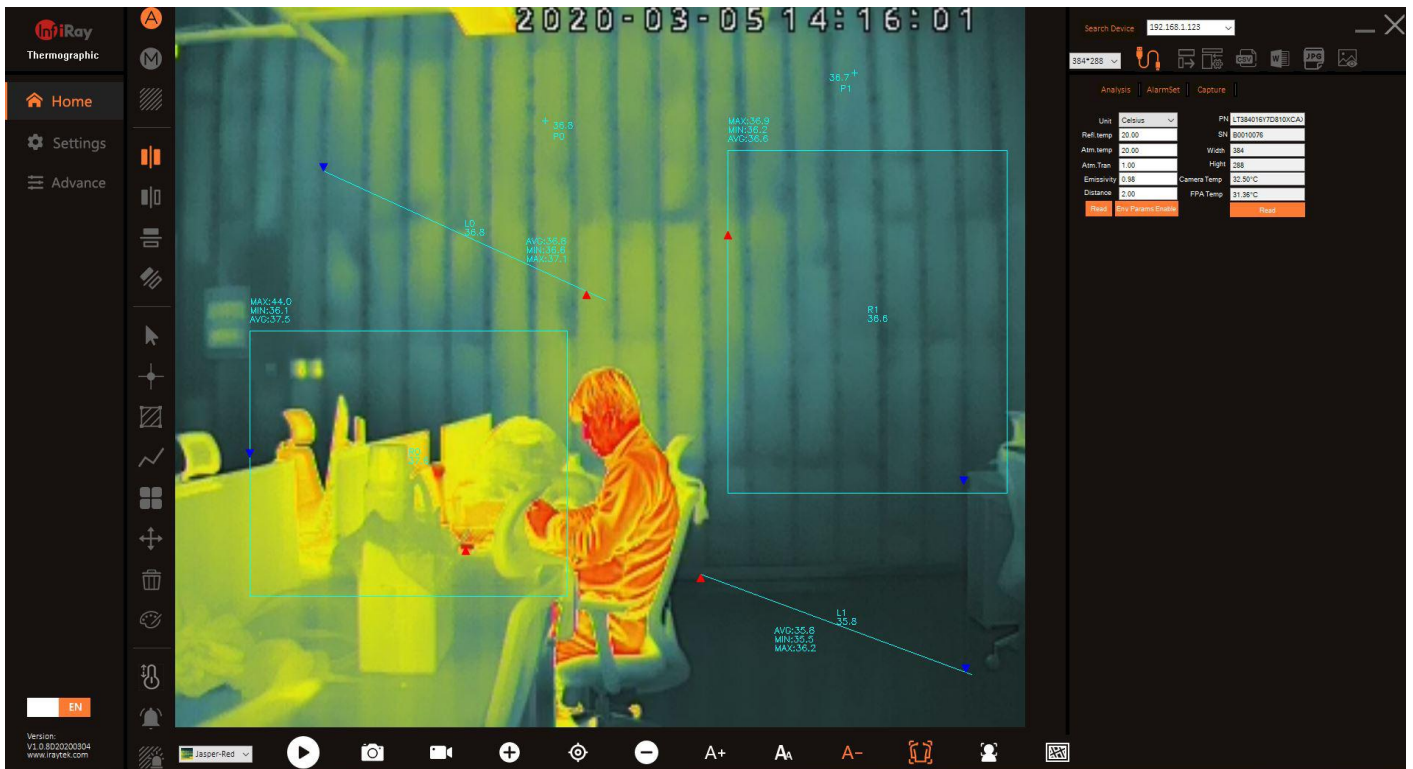

Figure 1.3 Product connect successfully
- As shown in Figure 1.3, if we connect the Camera to PC and search the device we want to connect, then all on-line devices will be successful. Click the connection button, you can get the image, use the software for device control and temperature analysis.
3. In the connection interface as shown in figure 1.3, you can also select to open the JPEG image for secondary analysis as shown in figure 1.4. Click the JPEG image button in the upper right corner and select the image file, the interface 1.5 will appear. You can use the PC software for temperature measurement analysis and environmental parameters reset.